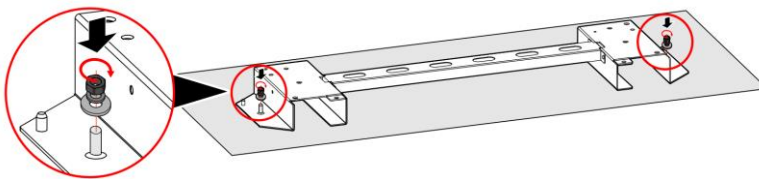

Figure3-14 Install the expansion bolt (unit: mm (in))
Step 5 Fasten the base module, as shown in Figure3-14.